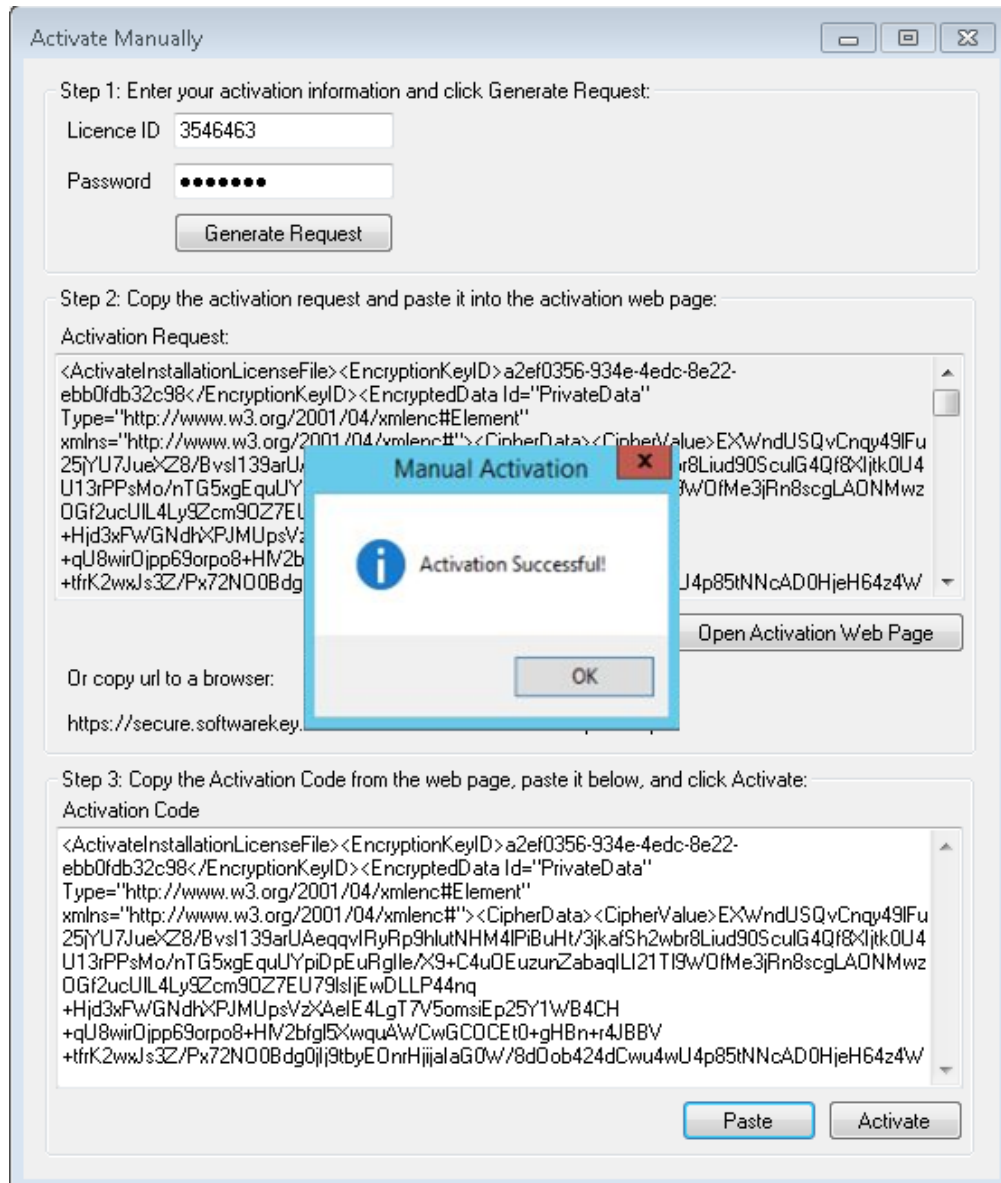

Figure 174
- If the licence is activated successfully, an **Activation Successful** window will be displayed. See Figure 174 below: